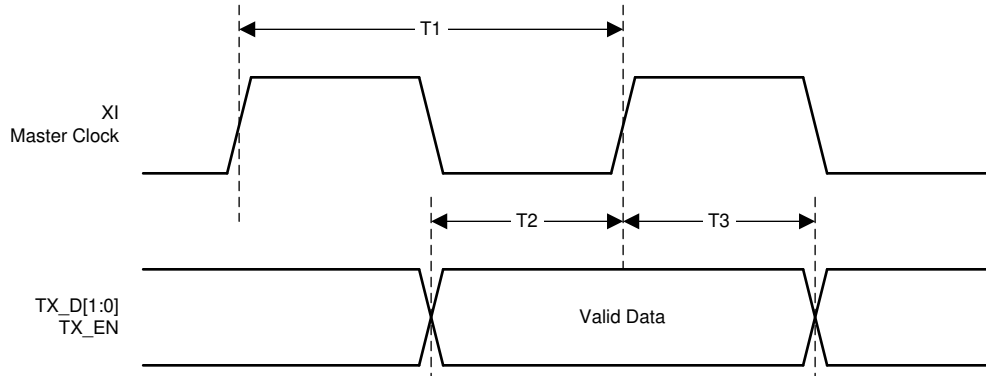

Figure 7-9. RMIITransmit Timing
(1) Ensured by production test, characterization or design.
(2) See Figure 7-9.